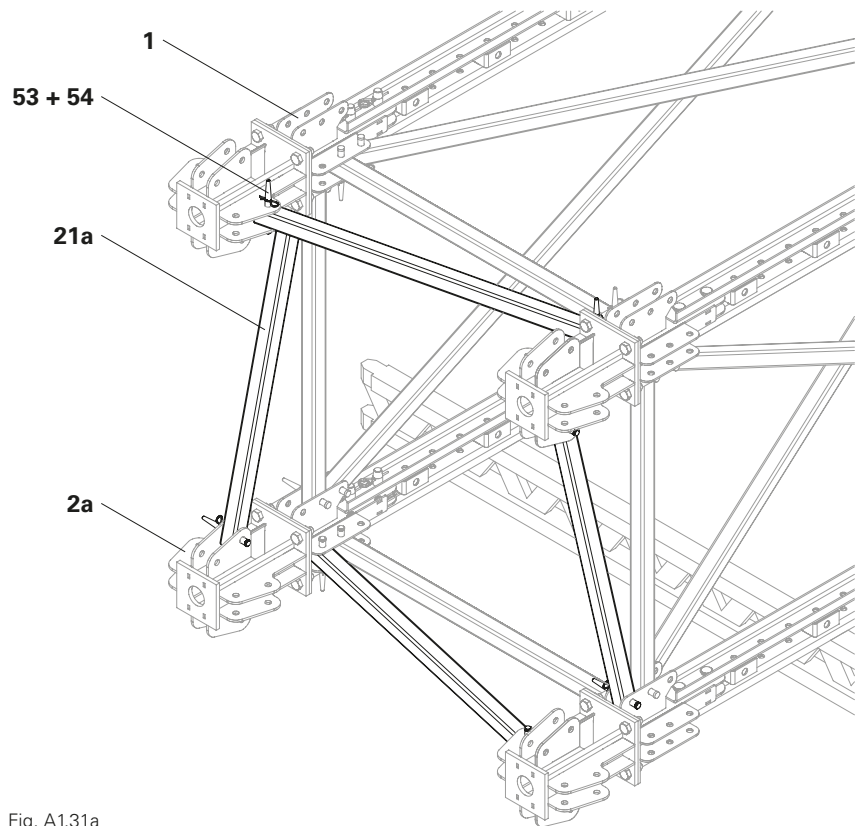

Fig. A1.31a
3. Repeat steps 1 – 2 for all prop heads. (Fig. A1.31a)